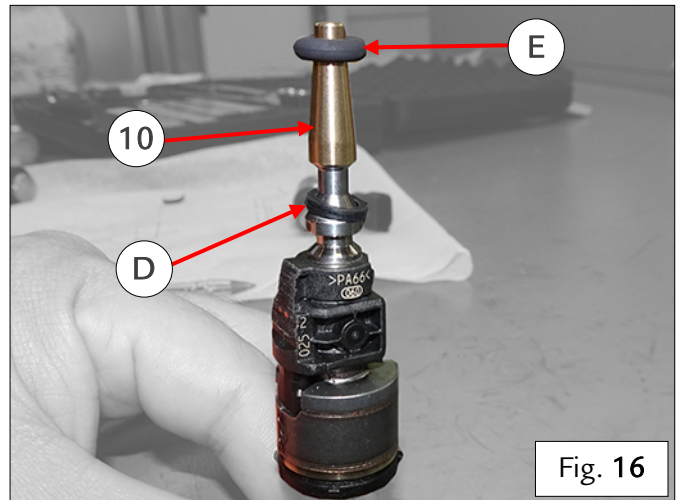

Fig. 16
- Turn the injector over and fit the ring (D), and then place the fitment guide tool (10) on the stem, pushing it completely into place - Fig. 16.
- Fit the seal ring (E) onto the upper end of the fitment guide tool - Fig. 16.